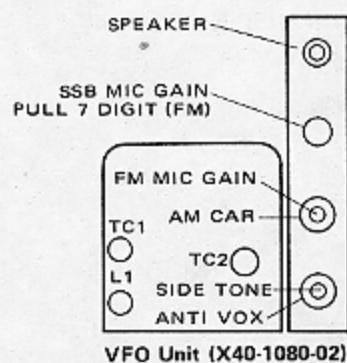

Fig. 24
• See Fig. 24
- (1) Connect frequency counter to TP-2 of Het Unit.
- (2) Turn VFO dial one turn of small tuning knob from fully clockwise. Adjust the dial attaching screw so that the pointer indicates "1000", the Freq. counter shall read 9,20000 MHz.
- (3) Verify the tracking of VFO per Table 7.